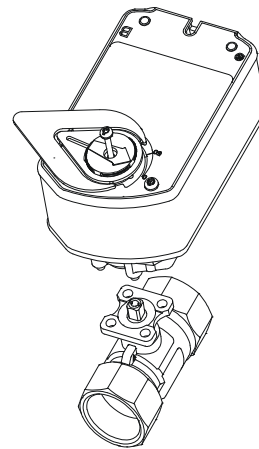

Figure 15: Mount the Actuator
7. Install the actuator on the ball valve (Figure 15). Tighten the actuator mounting screw to a torque of 10 to 12 lb·in. (1.1 to 1.4 N·m) and snap the large adjustable pointer into place.